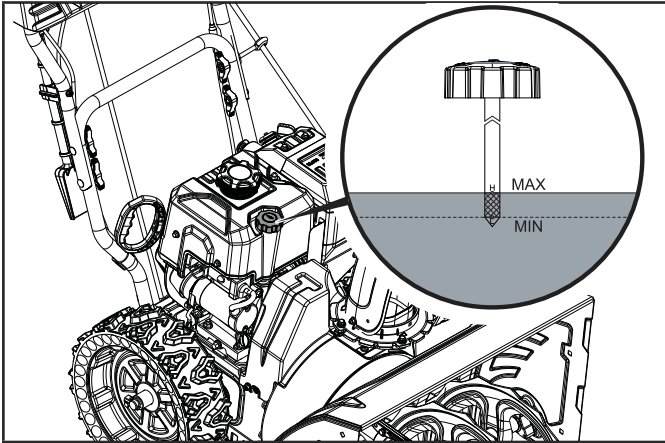

Figure 26
4. With the engine in a level position, fill to the upper limit mark on the dipstick with the recommended oil (5W-30) (Fig. 26).